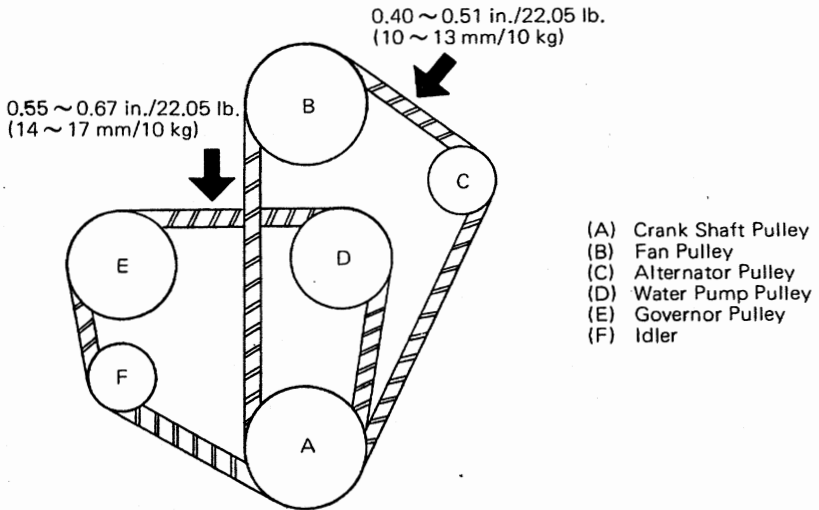

Fig. 41 Belt Adjustment
Keep correct tension of the fan and governor belts. The correct slack of the fan belt is 0.40 ~ 0.51 in./22.05 lbs. (10 ~ 13 mm/10 kg) in the drive direction when press the belt by the pressure of 22.05 lbs. (10 kgs), and the same of the governor belt is 0.55 ~ 0.67 in./22.05 lbs. (14 ~ 17 mm/10 kg). Adjustment can be done by shifting the alternator (C) and the governor tension pulley (F) in the direction of the arrow. (Fig. 41)